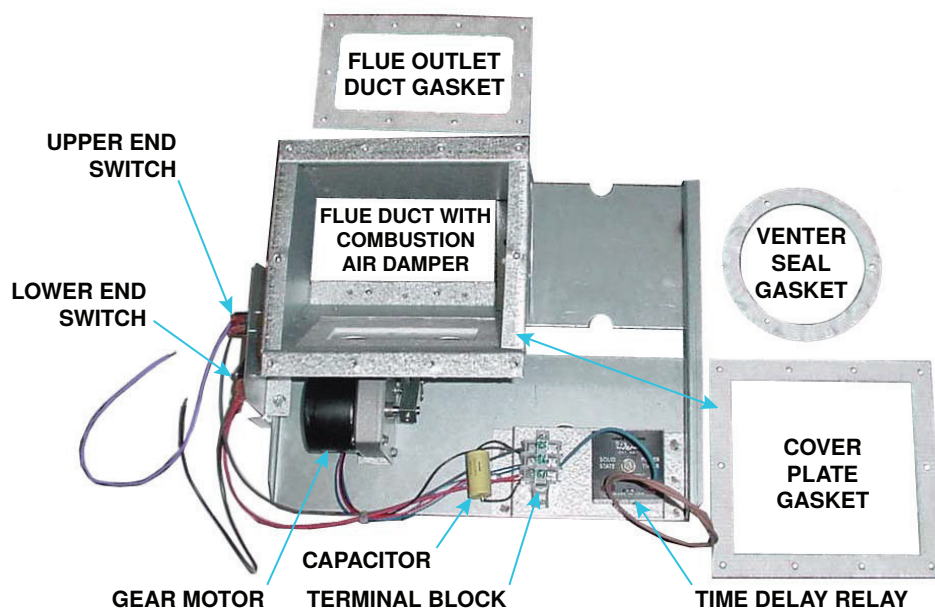

Figure 8. Replacement Flue Duct and Damper Assembly
The flue duct and damper assembly with a solenoid actuator—used on units with modulating gas control option AG39, AG40, AG41, or AG42 (duct furnace models RP, HRPD, and SC and air handler models RPB, RPBL, SCE, and SSCBL)—has been replaced by a flue duct and damper assembly with a gear motor. To facilitate replacement, the new flue duct, combustion air damper, and gear motor are factory-assembled and factory-wired. Replace the assembly (see Figure 8) as follows (item numbers in parentheses refer to Table 9):
5. Install replacement flue duct and damper assembly (1) with gear motor (see **Figure 8**):
- a. Install replacement flue outlet duct gasket (4) and restrictor plate removed in step 4e and secure replacement flue duct and damper assembly (1) to heater.